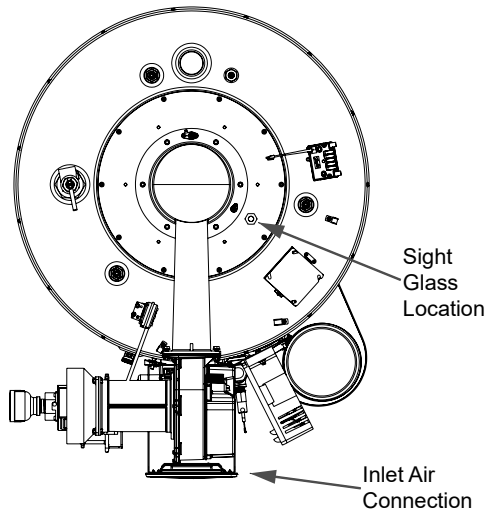

Figure 36. Location of Sight Glass
- Cause no excessive lifting of flame from burner ports. See *Figure 36*.